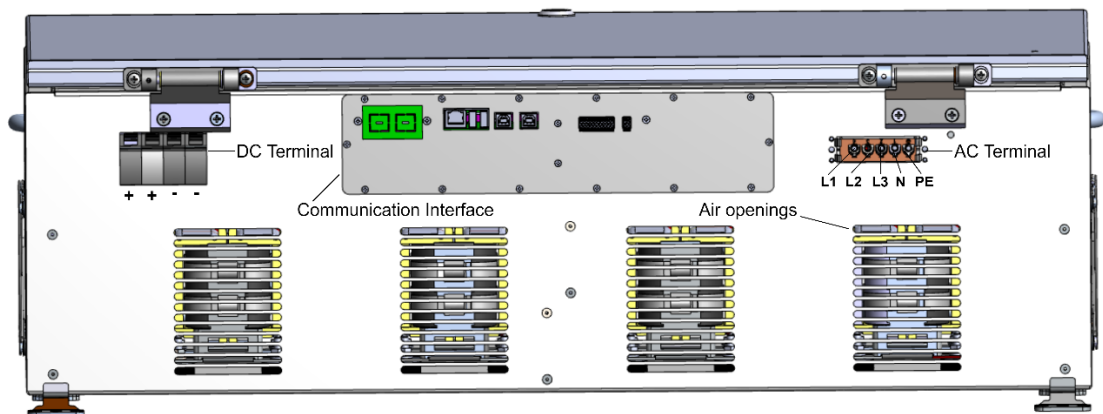

Figure 2 Location of physical features of the converter - bottom view
3. Connect the assembled DC cables according to the pin assignment shown in *Figure 2*.
2. Strip the insulation of L1, L2, L3, N and the grounding conductor (PE) by 14 mm.
3. Conductors L, N and the grounding conductor (PE) should each be fitted with appropriate size ferrules.
4. Insert the conductors according to *Figure 2* and tighten the screws with $1.5 \text{ Nm} \pm 0.3 \text{ Nm}$ torque.
2. Insert the assembled AC plug into the converter AC terminal shown in *Figure 2*.